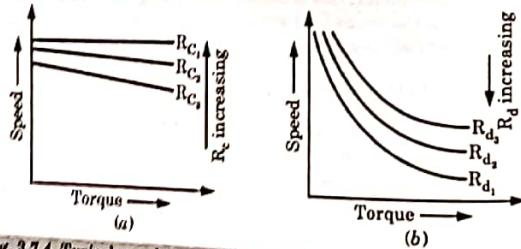

Fig. 3.7.4. Typical speed-torque curves (a) shunt motor (b) series motor.
9. Fig. 3.7.4(a) and 3.7.4(b) shows the typical speed/torque curves for shunt and series motors respectively, whose speed are controlled by the variation of the field flux.